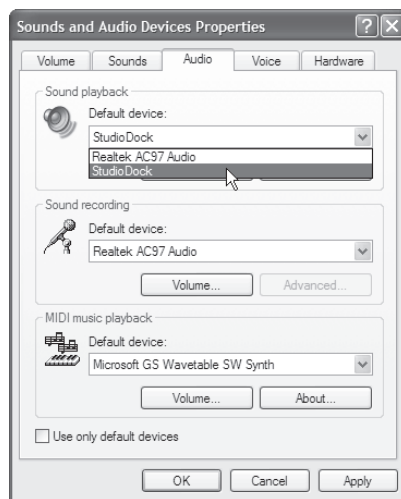

Figure 11
3. Typically, you want the StudioDock to be your default device and be at maximum volume. Set the StudioDock as the default playback device in Sound and Audio Devices Properties in Control Panel (figure 11).